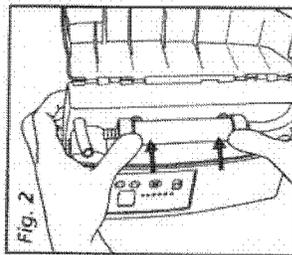

Fig. 2
6. Insert projecting side ports into matching connections in unit. Press cartridge firmly into place (Fig. 2).
2. To place unit in CLEANING MODE, press both the power on and the ALARM SILENCE/MUTE buttons simultaneously (Fig. 2).